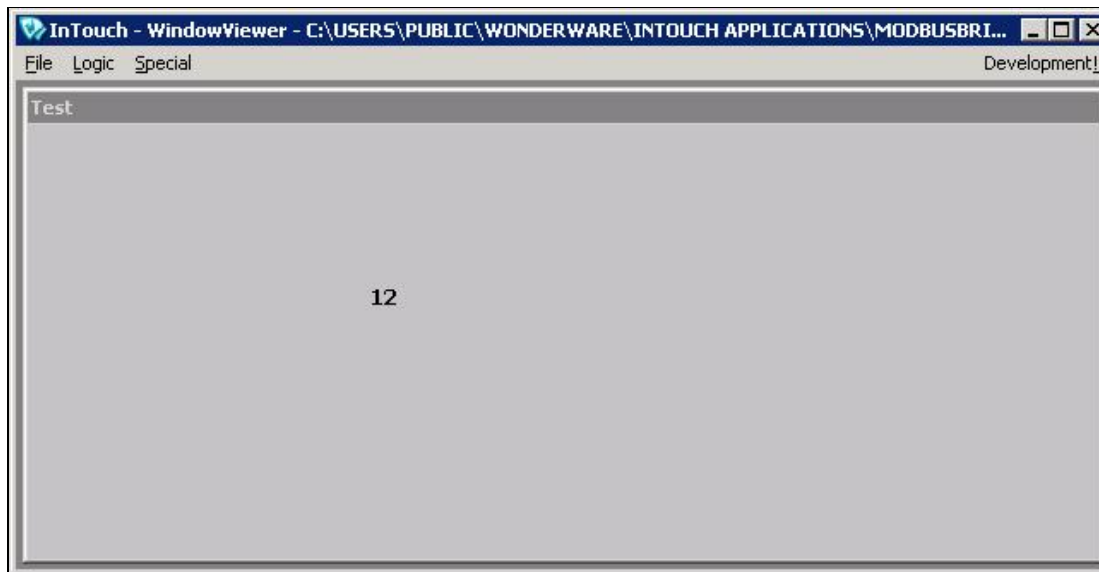

FIGURE 10: WINDOW VIEWER
4. WindowViewer should show the value for register **400001** (Figure 10 below).